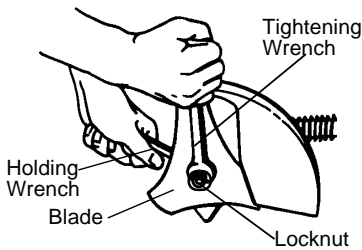

FIG. 3-SERV & ADJ
⚠ CAUTION: When removing or tightening the blade nut, always use the method shown in **Fig. 3- SERV & ADJ**. The holding wrench must always be positioned on the nut behind the cutting blade.
- Remove the 1/2-20 locknut shown in **Fig. 3-SERV & ADJ** securing the blade to the drive shaft.